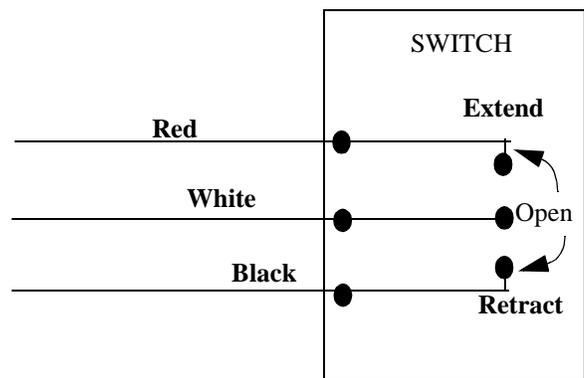

Figure 1. Electrical Test Wiring
2. Connect the White wire to 110 volt supply common (see Figure 1).